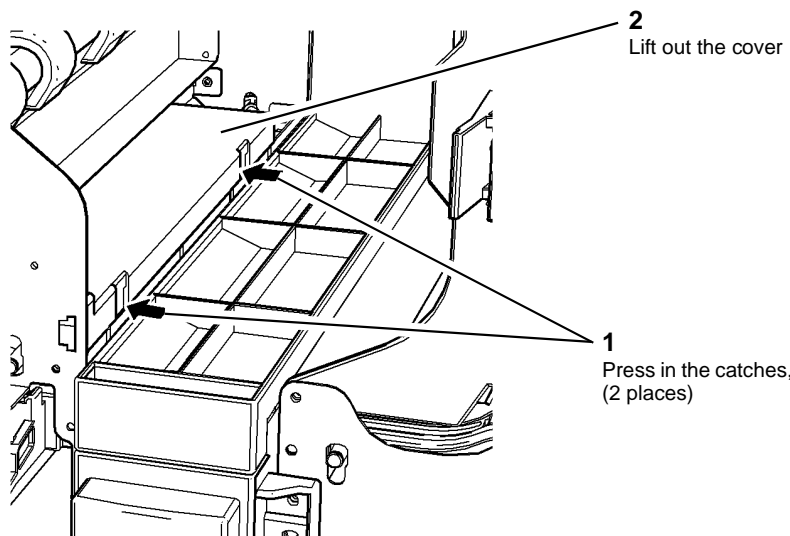

Figure 1 Cover removal
2. Figure 1. Remove the black plastic cover.